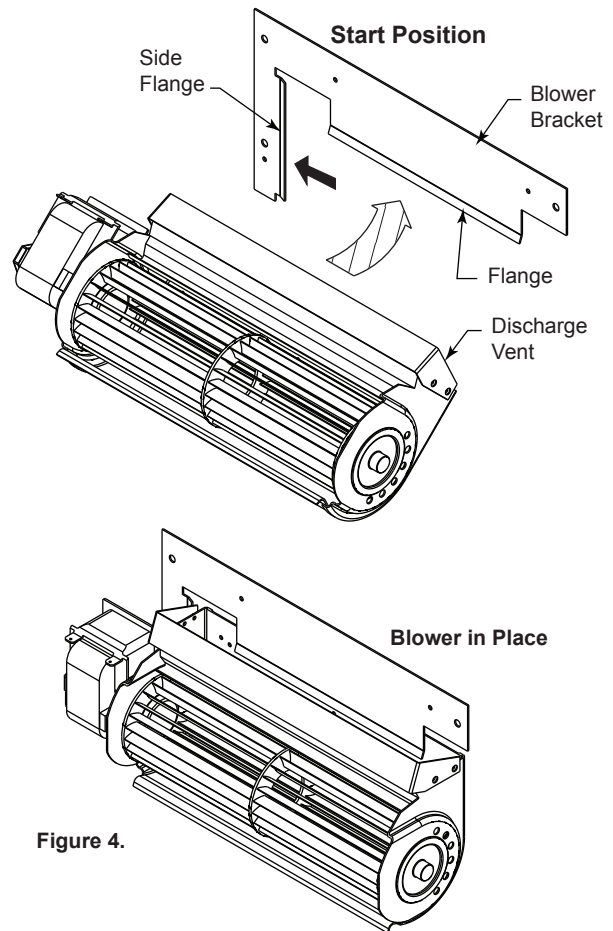

Figure 4.
1. The four (4) Velcro strips are used to insulate blower vibration when using mounting bracket. Be sure to leave in place.
3. With blower in lower access compartment, turn the discharge vent so it is facing up. Slip the discharge vent flange under the flange of the mounting bracket flush up against the back wall. Slide the side tabs over into the side flange. Figure 4